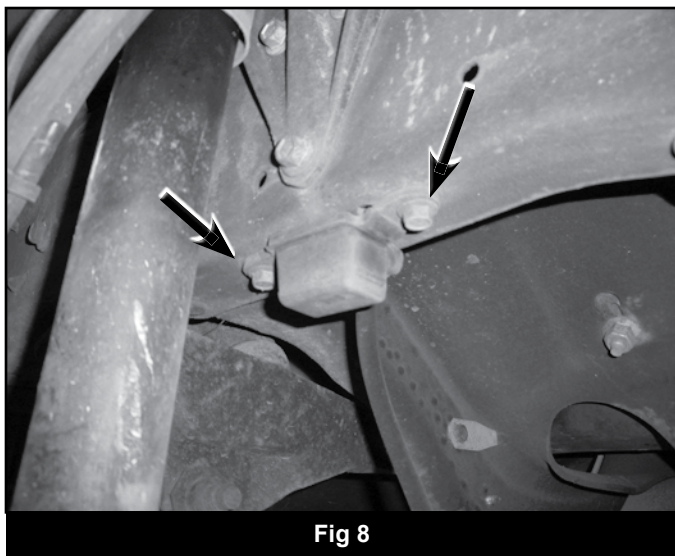
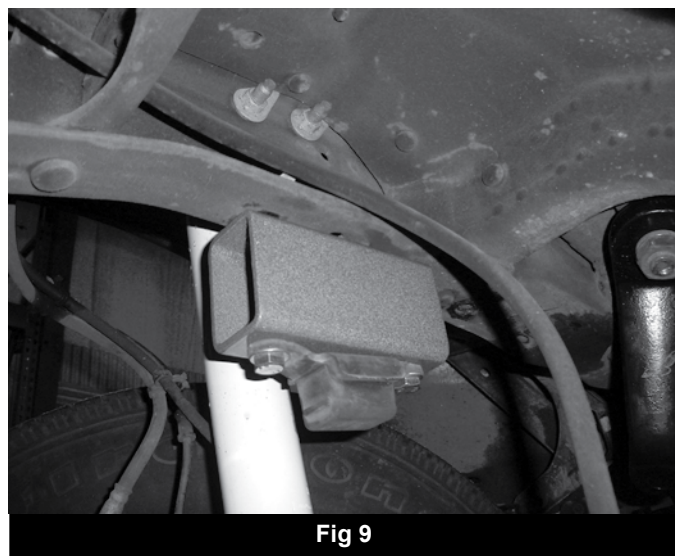

Fig 8
Fig 9
20. Remove the factory front bump stops from the frame rails (Fig 8). Locate the provided rectangle bump stop spacers (01027) and place between the factory bump stops and the frame rail. Align the holes in the bump stop and spacer with the original frame mounting holes and fasten with the provided 10mm x 110mm bolts and washers (BP 441) into the captive nuts in the frame (Fig 9). Use Loctite on the bolt threads and torque bolts to 30 ft-lbs.